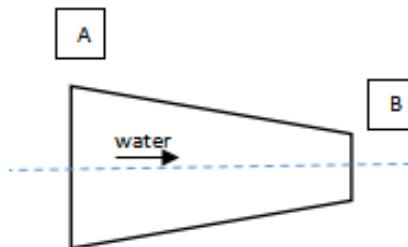

Figure B1(a) / Rajah B1(a)
- CLO2 (a) Water flows through pipe A, which has a diameter of 1.2 m at 4 m/s and subsequently through pipe B, which has a diameter of 0.9 m as depicted in Figure B1(a). Identify the flow rate of pipe B using the continuity equation.